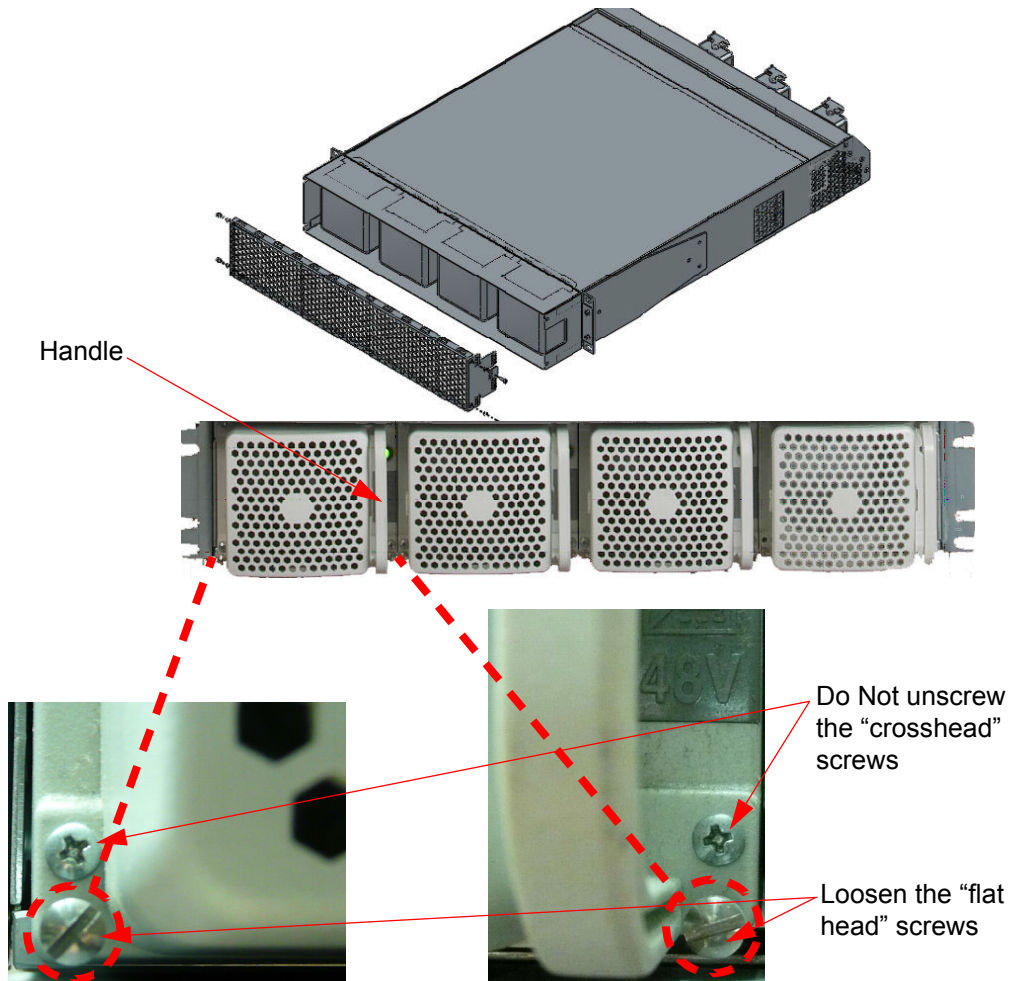

Figure 19 Removing the Power Supply Units
1. Remove the protective mesh cover from the front of the power supply shelf by loosening the four hexagon head screws (2 either side of the mesh cover) using a 2.5 size Hex key or driver. Carefully pull the mesh cover away from the front of the PSU shelf, see Figure 19
2. To remove an individual PSU loosen the two “flat head” screws at the very bottom of the PSU (see Figure 19).
Do not unscrew the “crosshead” screws marked in Figure 19